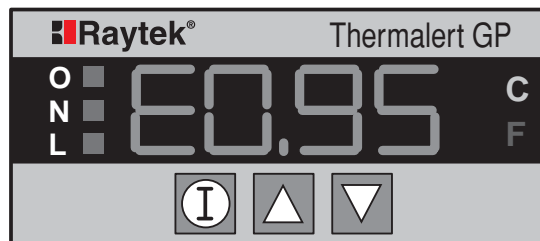

Figure 7: Emissivity Display
1. In temperature mode display, press the  button until a display similar to Figure 7 appears. (The “E” will be followed by numbers designating